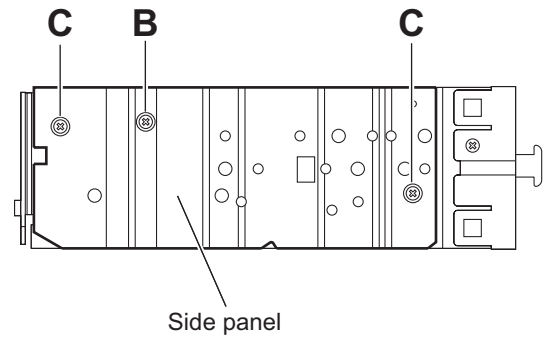

Fig.4
3.1.4 Removing the side panel (See Fig.4)